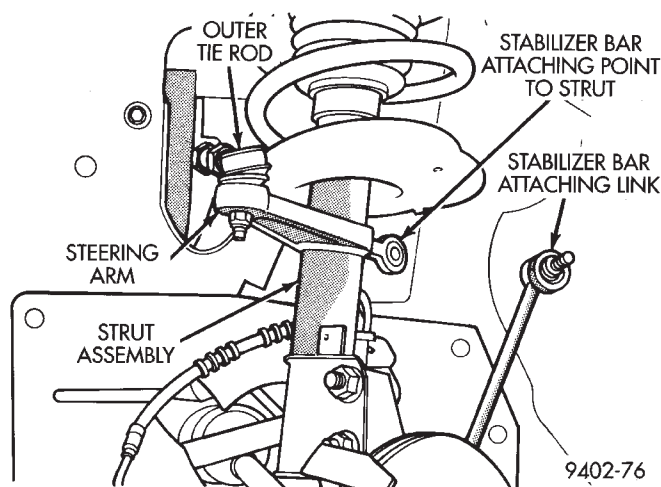
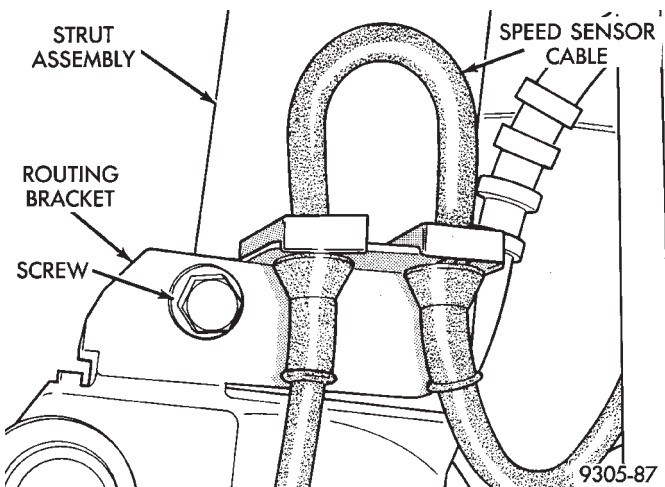

Fig. 2 Stabilizer Bar Attaching Link
Fig. 4 Speed Sensor Cable Routing Bracket
(5) Remove the stabilizer bar attaching link from the strut (Fig. 2).
(7) If vehicle is equipped with antilock brakes, remove the routing bracket for the wheel speed sensor cable from the strut (Fig. 4).
(12) If removed, install the routing bracket (Fig. 4) for the wheel speed sensor on the strut.
(13) Install outer tie rod on strut. Install outer tie rod attaching nut. Tighten the tie rod attaching nut to a torque 37 N·m (27 ft. lbs.).
(14) Install stabilizer bar attaching link on strut (Fig. 2). Tighten the stabilizer bar attaching link nut to a torque of 95 N·m (70 ft. lbs.).